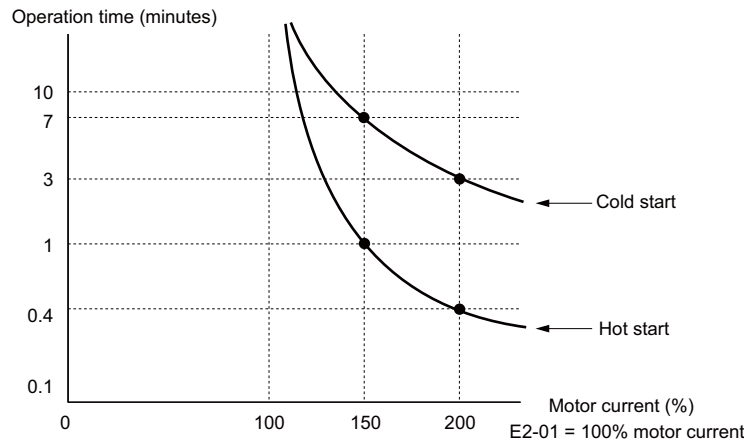

Figure 5.61 Motor Protection Operation Time
**Figure 5.61** shows an example of the electrothermal protection operation time using a general-purpose motor operating at 60 Hz with L1-02 set to one minute.